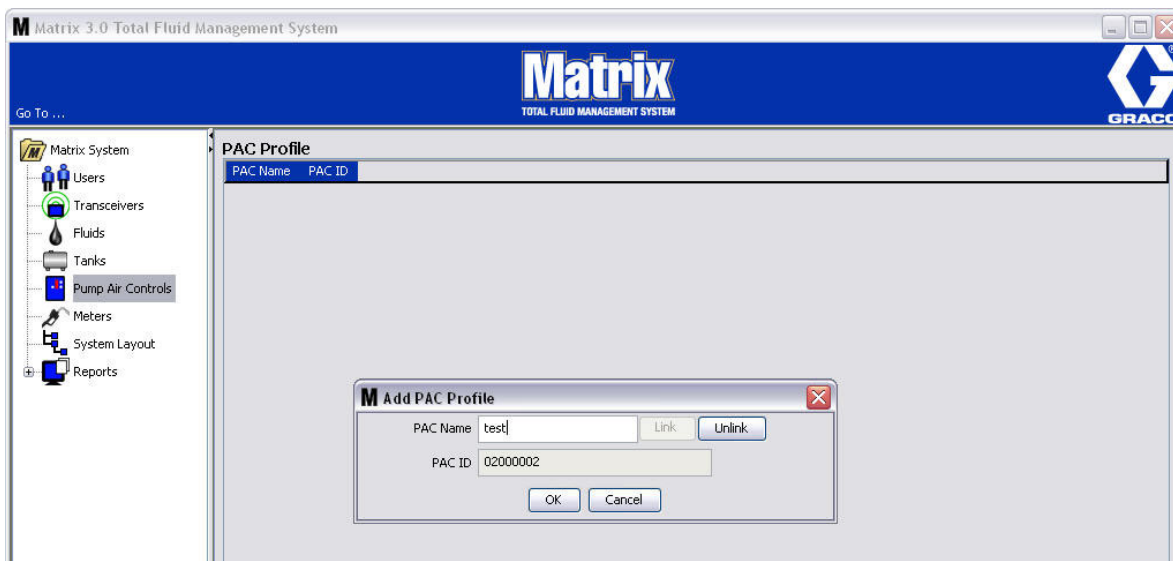

FIG. 82
5. The PAC ID number displays in the PAC ID field (FIG. 82). Click OK to close the screen and save the changes.
Notice the “Link” button in FIG. 82 is no longer active and instead an “Unlink” button is active. Clicking the “Unlink” button breaks the association between the PAC and the Matrix PC.